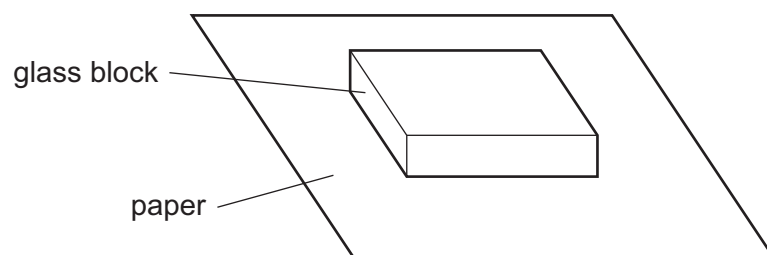

Fig. 3.1
- Place the glass block on the centre of the paper as shown in Fig. 3.1. Using a pencil, draw carefully around the block.